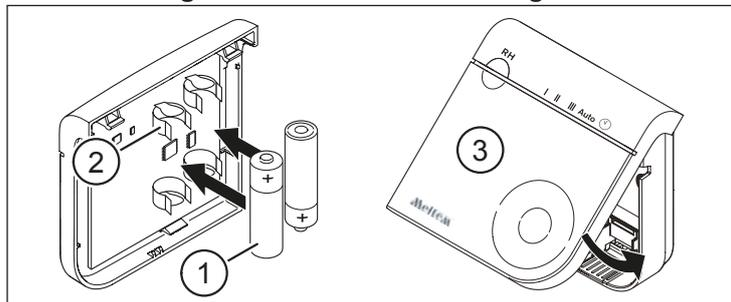

Fig. 3: Inserting the batteries and attaching the cover
- ▶ Insert the batteries (item 1 in Fig. 3) in the battery holders (item 2 in Fig. 3) on the back of the cover. All the LEDs light up for 3 seconds when the batteries are inserted. The wireless sensor then switches automatically to connection mode and the status LED flashes green-red.
- ▶ Swivel the cover down until you hear it snap into place in the housing (see Fig. 3).